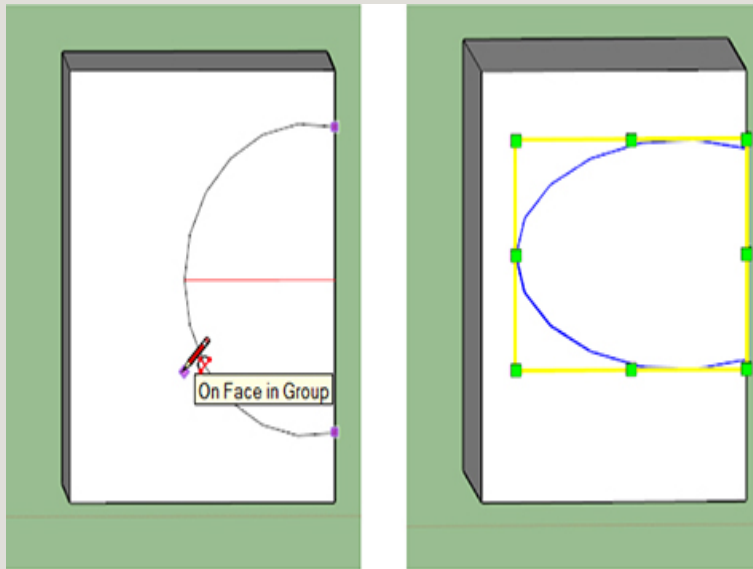

Figure 3-84 Draw and warp an arc on the grouped cube.
- d. Use the Two Point Arc tool to draw an arc. Then warp it with the Scale tool (Figure 3-84).